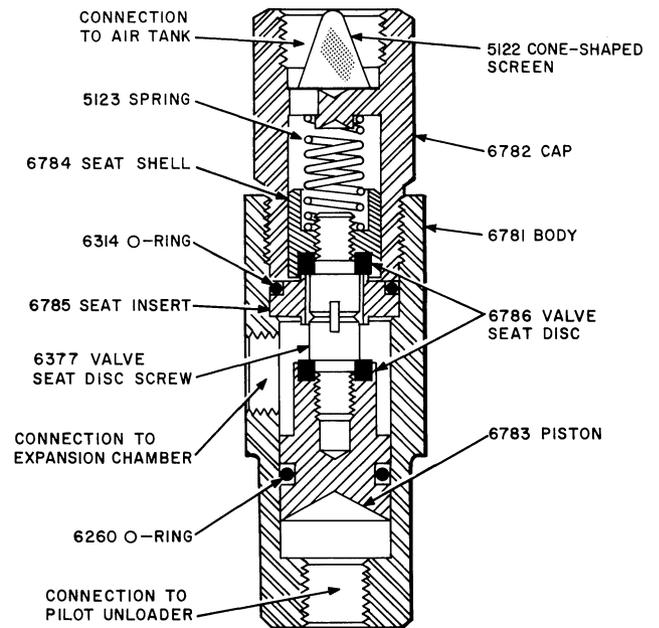

Fig. 10—KS-16432 L2 Air Dryer—Water Ejector
WATER EJECTOR—L2 DRYER (Fig. 10)
- (12) Wipe the valve parts with a clean, dry cloth.
- (13) Replace O-rings and valve seat discs.
- (14) Reassemble the ejector as shown in Fig. 10, and remount.
- (15) Open the air supply to the cable system.
- (16) Turn on the master stop-start switch.